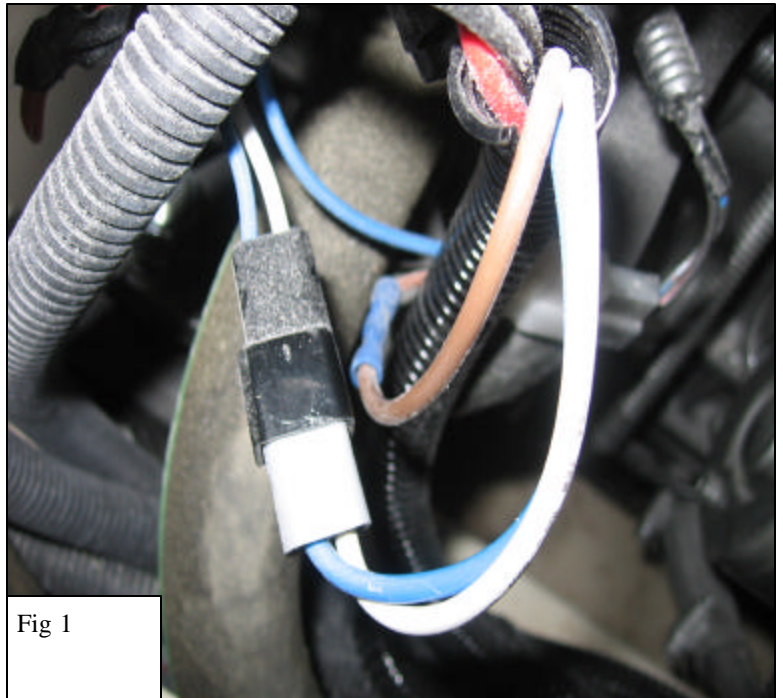

Fig 1
1. Connect harness field wire blue & white with male connector to alternator internal regulator harness same color code female connector. (fig 1)